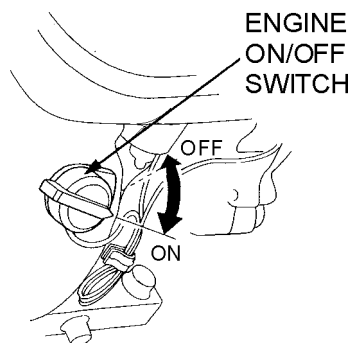

Figure 12. Engine ON/OFF Switch
2. Place the engine ON/OFF switch (Figure 12) in the **ON** position.